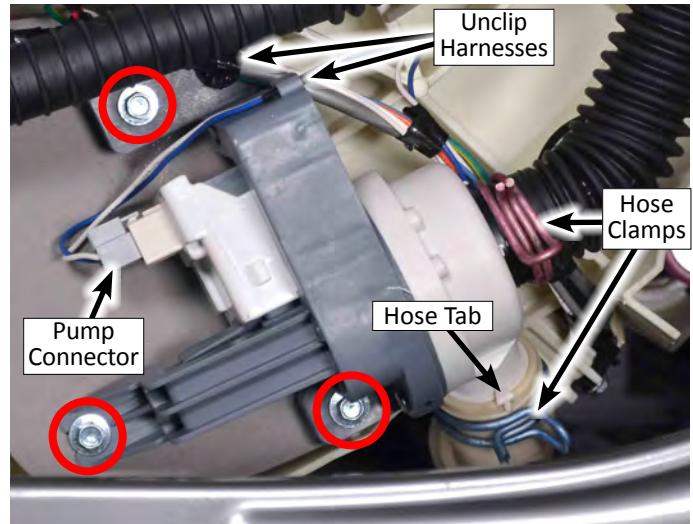

Figure 2 - Drain Pump
Removing the Drain Pump (Figure 2)
1. Disconnect pump connector from drain pump. Unclip harnesses as shown in Figure 2.
2. Loosen the two (2) hose clamps and pull the inlet and outlet drain hoses off the pump. Note that there is a tab on the outlet that fits into a slot in the hose.
3. Remove the three (3) 8mm hex-head screws (circled) and remove drain pump from tub.